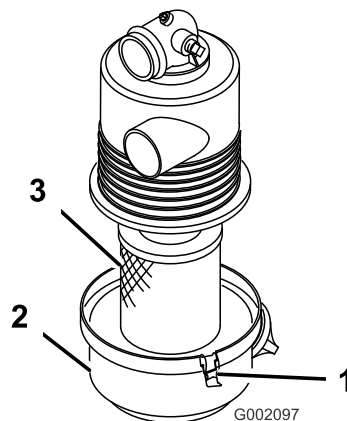

Figure 33
3. Release the latches securing the air cleaner cover to the air cleaner body. Separate the cover from the body. Clean the inside of the air cleaner cover (Figure 33).
4. Gently slide the filter out of the air cleaner body to reduce the amount of dust dislodged (Figure 33). Avoid knocking the filter against the air cleaner body.